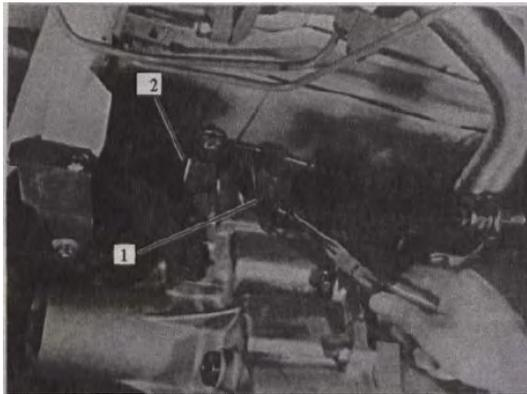

Fig 10-103
- (1) Make sure that gear shift control lever is in neutral position and disconnect gear shift and select cables from shift shaft lever and select shaft lever. (FIG.10-103)